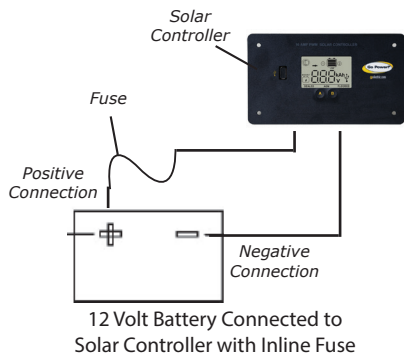

Figure 3
3. Kits include a fuse holder with an inline 10A fuse to protect the wire between the battery and solar controller. Install your inline fuse as close to the battery as possible before connecting the solar controller to the battery terminal. See **Figure 3: "12 Volt Battery Connected to Solar Controller with Inline Fuse"**.